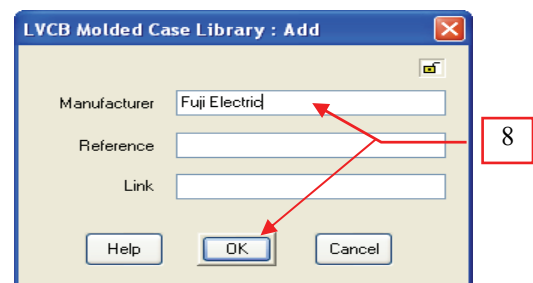

Fig. 7
8. Enter the following in the “LVCB Molded Case Library: Add” dialog box and click “OK”. See Fig. 7.